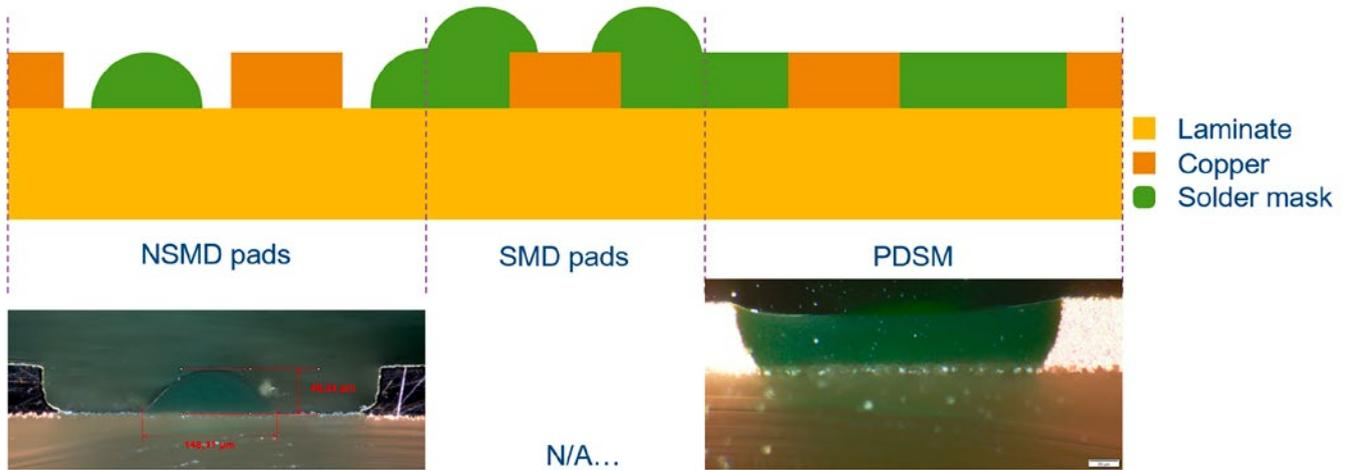

Figure 2: The choices are depicted here as a sketch and as its resulting cross-section.
- The cross-section of a narrow solder mask feature resembles a dome (Figure 2). The traditional rectangular cross-section is no longer present. Instead, an edge-less, cavity-less profile replaces it that increases mechanical stability and chemical inertness.